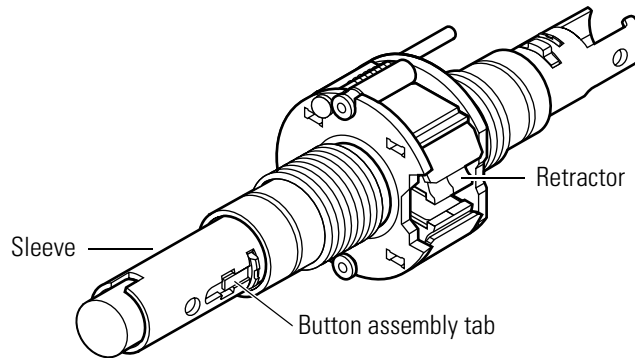

Figure 3.12 Removing the button assembly
2. Use a flat blade screwdriver to press down on the button assembly tab, which is visible through the cutout in the sleeve, as shown in Figure 3.12. The tab should now lie flat.